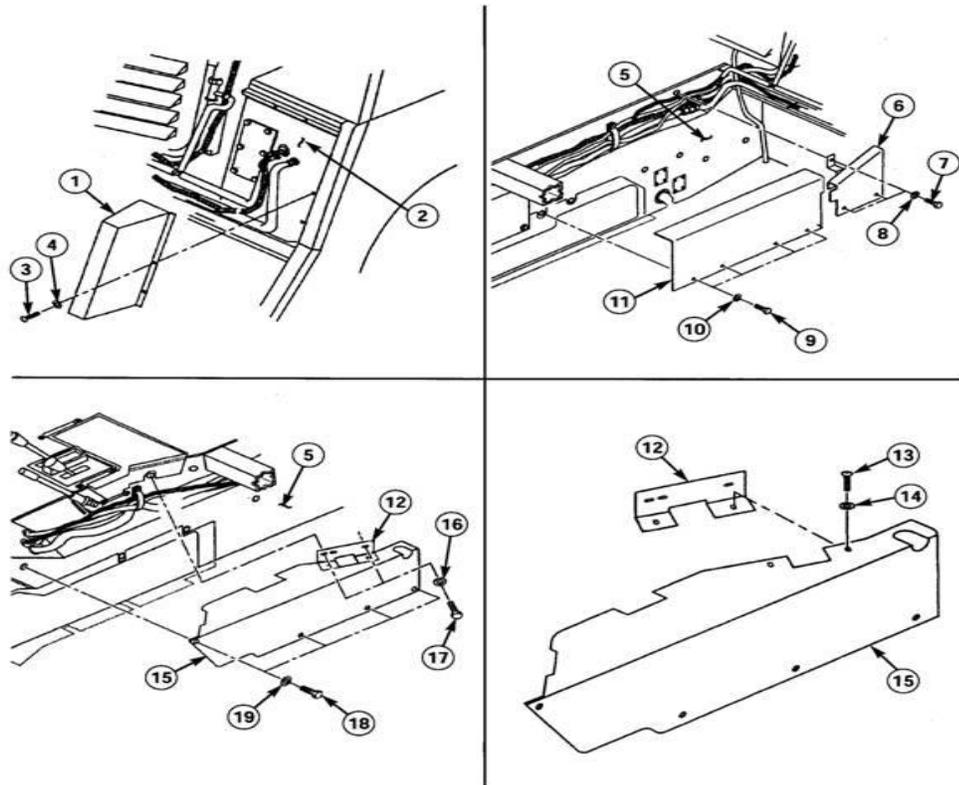

Figure 62
(17) Apply sealing compound to threads of two screws (3), and install left rear HVAC lines cover (1) on left rear wheelhouse (2) with two washers (4) and cap screws (3). Tighten cap screws (3) to 36 in-lb (4 N·M) as shown in **Figure 62**.
(18) Apply sealing compound to threads of three cap screws (7), and install left rear HVAC lines cover (6) on left side tunnel (5) with three washers (8) and cap screws (7). Tighten cap screws (7) to 6 ft-lb (8 N·M) as shown in **Figure 62**.
(19) Apply sealing compound to threads of four cap screws (9), and install A/C coolant line rear B-pillar cover (11) on left side tunnel (95) with four washers (10) and four cap screws (9). Tighten cap screws (9) to 6 ft-lb (8 N·M) as shown in **Figure 62**.
(20) Apply sealing compound to threads of two screws (13), and install mounting angle (12) on A/C coolant line front cover (15) with two washers (14) and screws (13). Do not tighten screws (13) as shown in **Figure 62**.
(21) Apply sealing compound to threads of four cap screws (18), and install A/C coolant line front cover (15) on left side tunnel (5) with four washers (19) and cap screws (18). Tighten cap screws (18) to 6 ft-lb (8 N·m) as shown in **Figure 62**.
(22) Apply sealing compound to threads of two cap screws (17), and secure mounting angle (12) to left side tunnel (5) with two washers (16) and two cap screws (17). Tighten cap screws (17) to 6 ft-lb (8 N·m) as shown in **Figure 62**.
(23) Tighten two screws (13) to 36 in-lb (4 N·m) as shown in **Figure 62**.